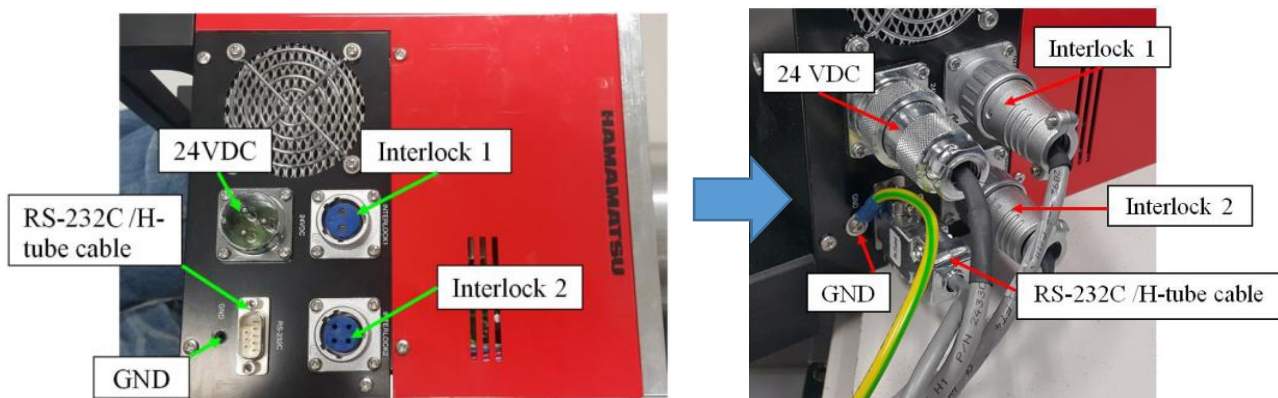

Figure 11
12. Connect all cables to X-ray tube panel as Figure 11.